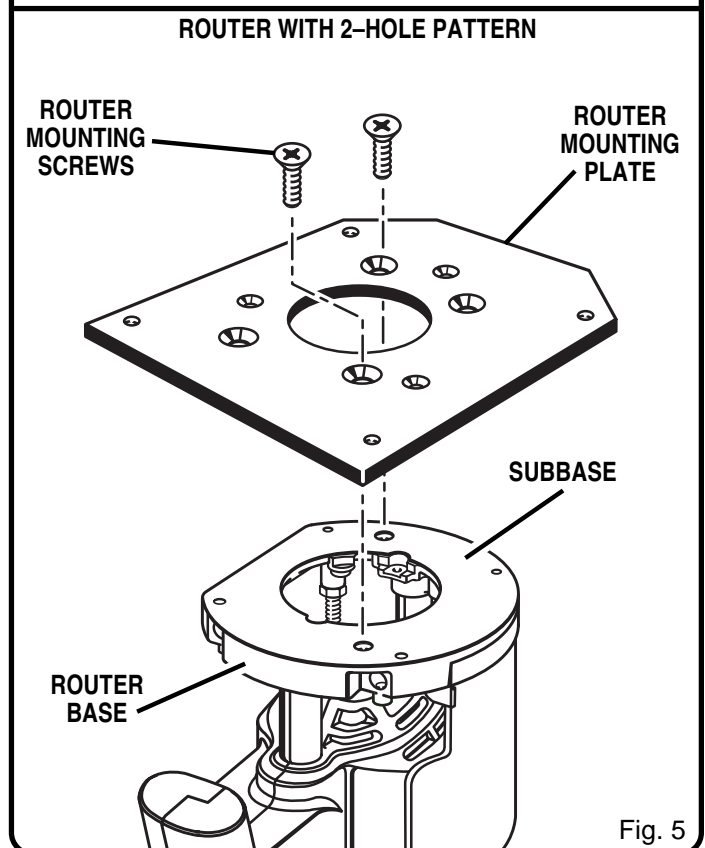

Fig. 5
See Figures 5 and 6.
- The switch handle of the router should be facing the squared end of the mounting plate. See Figure 5.